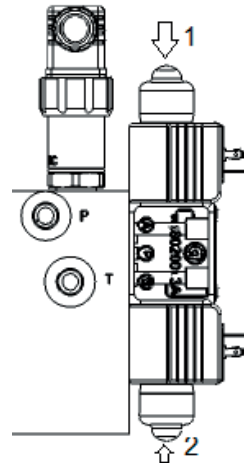

Figure 7. Control push-pin nut
2. Press the control push-pin nut on the top of the valve down, (See figure 7, arrow 1) towards the valve block and hold it.
2. Press the control push-pin nut on the bottom of the valve up, towards the valve block (see figure 7 arrow 2), and hold it.